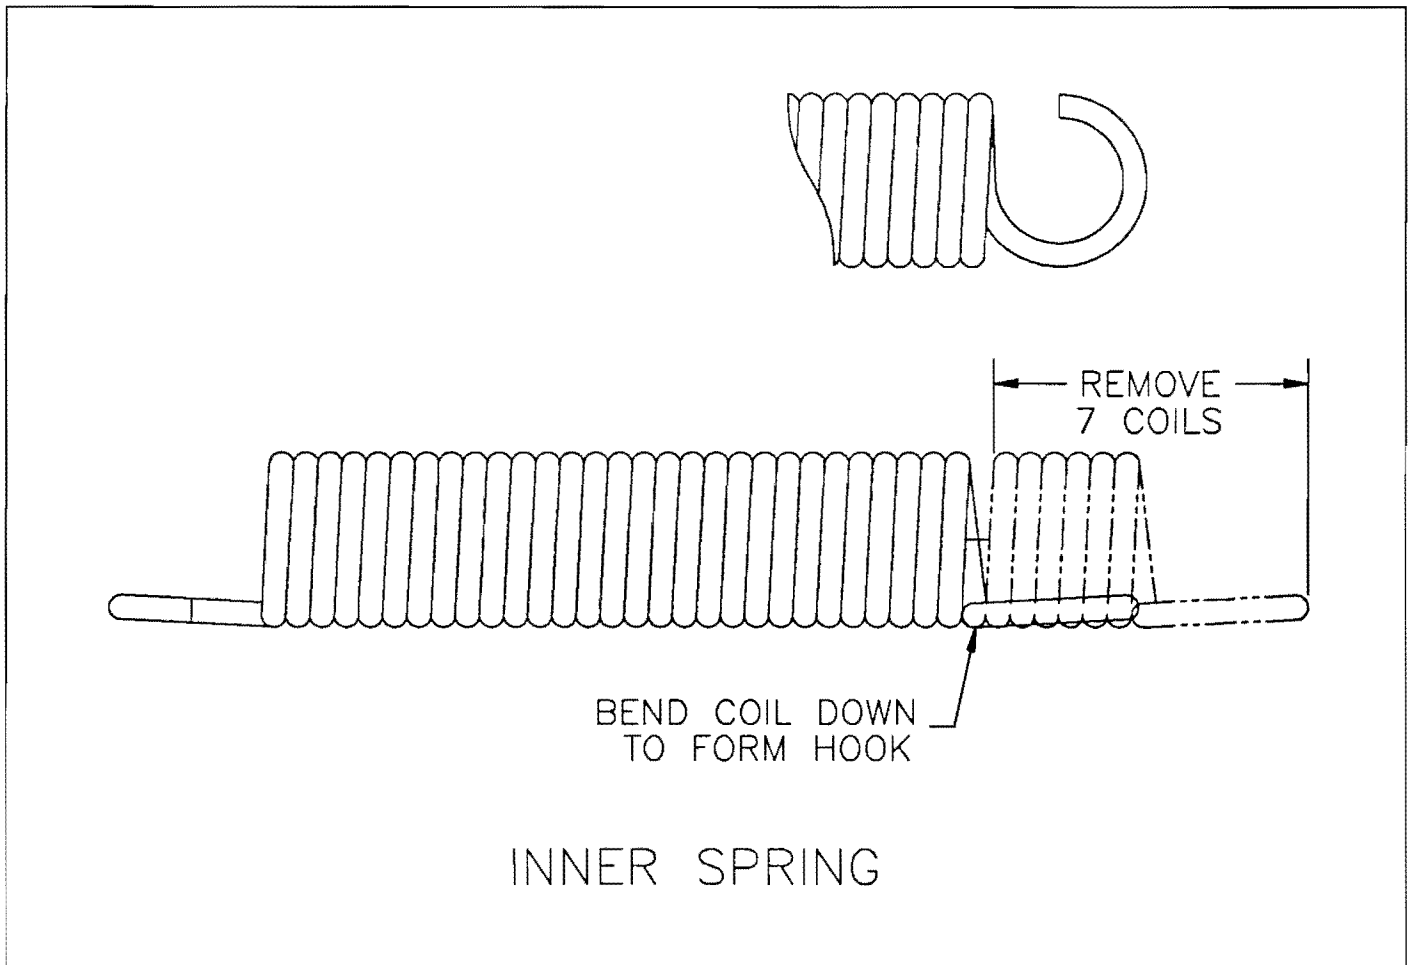

Figure 2
3. Remove seven (7) coils from the inner spring and reform the hook end as described above (see Figure 2).